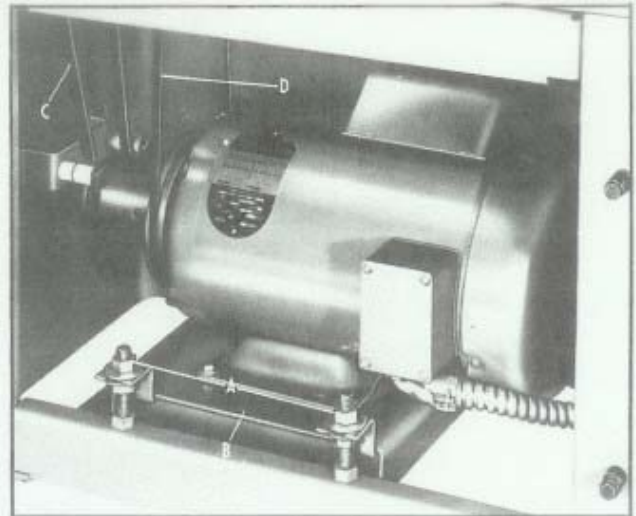

Fig. 31.
1. Remove two nuts (A) Fig. 31.
2. Raise up and place a block of wood under the motor mounting plate (B) Fig. 31, to release tension on the belts.
3. Remove belts (C) and (D) Fig. 31, from the motor pulley.
9. Assemble the new belts by reversing the above instructions. Note that the variable speed belt (C) Fig. 31, is positioned on the pulley in such a way that the nylon rollers provide tension on the O.C. of the belt as shown in Fig. 31.